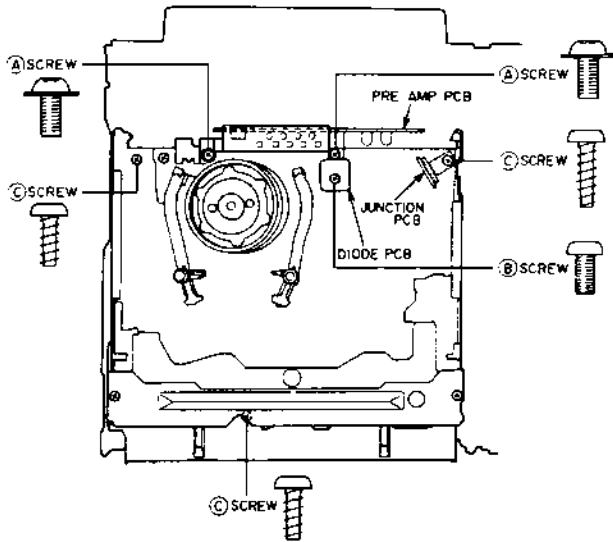

Fig. 4-24
- 1) Remove the two (A) screws then pull up the PRE AMP PCB as shown in Fig.4-24.
- 2) Remove the (B) screw on the DIODE PCB and remove the DIODE PCB.
- 3) Remove the three (C) screws from the MECHA. FRAME as shown in Fig.4-24.